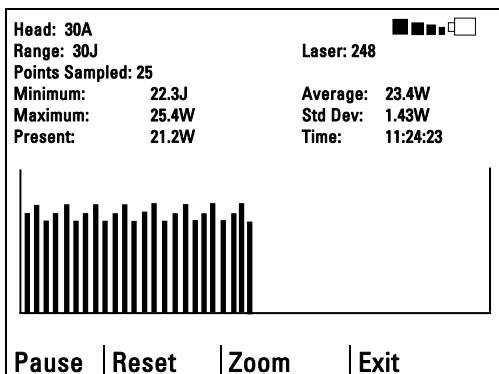

Figure 4.7
4.5.6. Energy Log and Data Storage See Figure 4.7